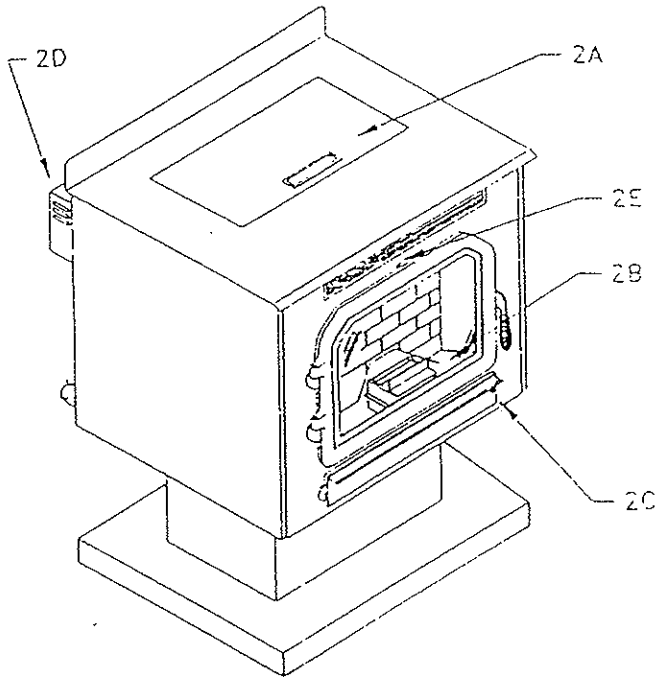
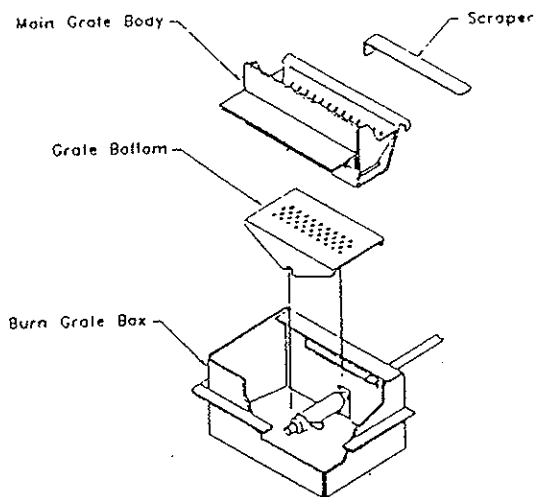

Figure 2.
Figure 3. Self-Cleaning Grate
When lighting your stove for the first time or any time you have run out of fuel; you will need to fill the hopper with pellets (ref. Figure 2 {2A}) and follow the instructions at the top of page 5. Fuel is fed from the hopper to the burn grate by an auger. The auger is driven by a high torque motor which is capable of doing **SERIOUS** harm to fingers. Keep pellets in the hopper and keep fingers and other objects away from the auger.
1. Check grate bottom (Figure 3) to determine if holes are plugged. Clean as needed. With proper precautions the grate may be partially cleaned while the stove is hot. Follow these steps:
2. Remove and inspect ash buildup under the grate bottom (Figure 3) after 1 to 3 days of burning.
3. Check ash pan (Figure 2. {2B}) to determine emptying frequency needed. If you have the Bayport model, the bottom grill must be removed (see NOTE in item 5 below). NOTE: Do not use a vacuum cleaner for this purpose. Hot coals may cause your vacuum filter to catch fire. Place ashes in a metal container with a tight fitting lid. The closed container of ashes should be placed on a noncombustible floor or on the ground, well away from all combustible materials, pending final disposal. If the ashes are
4. Check exhaust clean outs located behind ash pan by removing ash pan from stove thru ash pan access door (Figure 2 {2C}). Use scraper shown in (Figure 3) to scrape ash into ash pan. IT IS CRITICAL THAT YOU KEEP ASH CLEAN OUTS CLEAN FOR SATISFACTORY PERFORMANCE.
5. Once or twice daily pull the Heat Exchange Tube Scraper, (Figure 2 {2E}) out and back to clean heat exchange tubes. Failure to operate the tube scraper daily may result in poor combustion and loss of heat output. This should be done when the stove is cool or operating on the low temperature setting. See Figure 24 (page 24 of the Installation Manual) if visual is needed. NOTE: On the Bayport model the top grill must be removed in order to use the tube scraper. This may be accomplished by lifting and sliding the bottom of grill out towards you, then pulling down past the pin mounts.